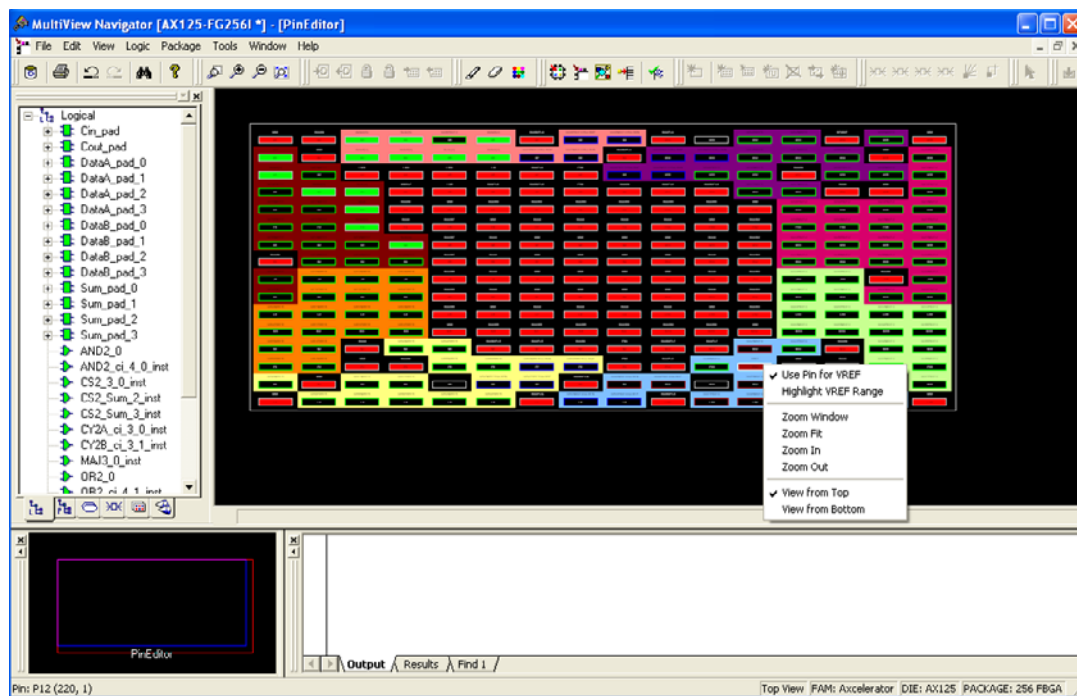

Figure 13 • Manually Assigning V_{REF} Pins
2. Right-click and choose **Use Pin for V_{REF}** (Figure 13).
A check mark appears next to the Use Pin for V_{REF} command in the right-click menu (Figure 13).